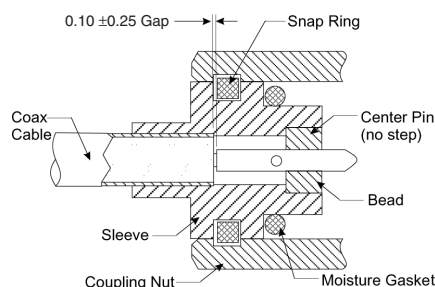

Figure 2. Male K Connector[®], Assembled
- Slide the sleeve assembly onto the cable until it reaches the bottom limit of the sleeve. When properly positioned, the center pin will protrude as shown in Figure 2, and the sleeve will cover approximately 4.76 mm of the cable. Check pin extension.
- (1) That the support bead is flush with or slightly recessed from the end of the sleeve assembly.
- (2) That the center pin extends out from the bead as shown in Figure 2.